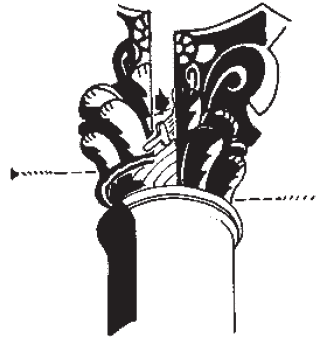

FIGURE 8-7
2. Clean cut surfaces of capital with shellac. Then thoroughly coat all four joining surfaces of the capital with polyurethane adhesive. Push the halves together and clamp with a rope clamp. Then secure the joined halves with screws and attach to the shaft (Fig. 8-7).